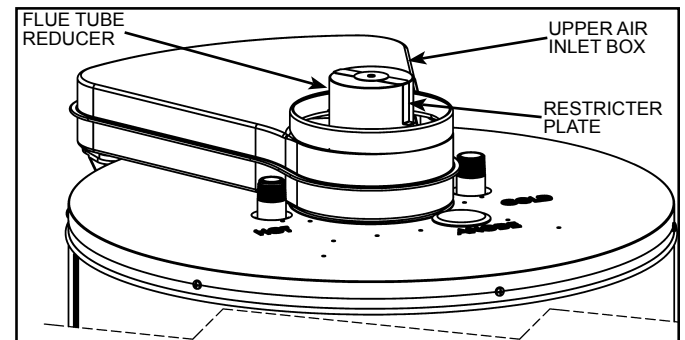
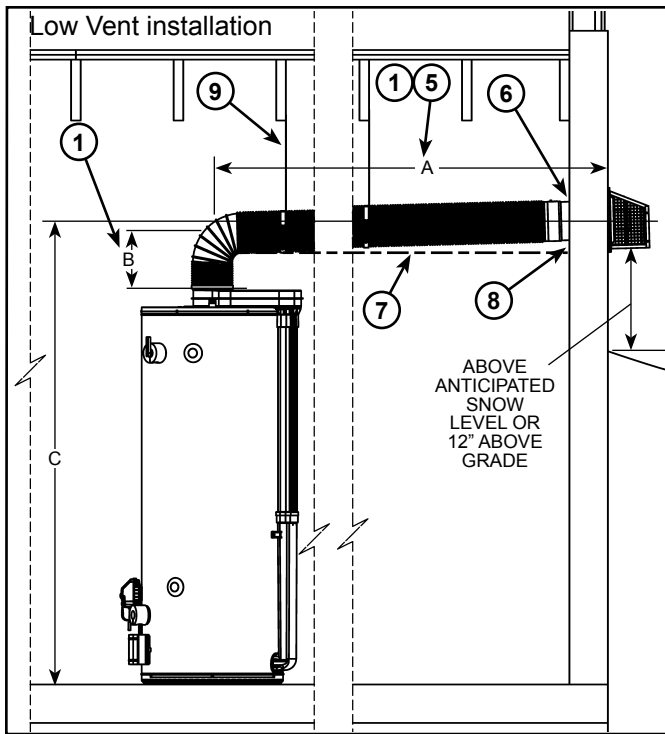
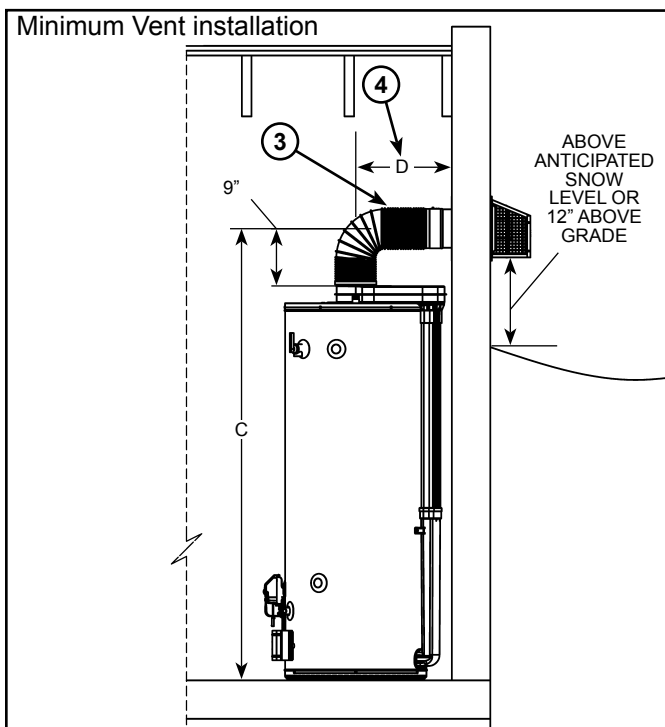
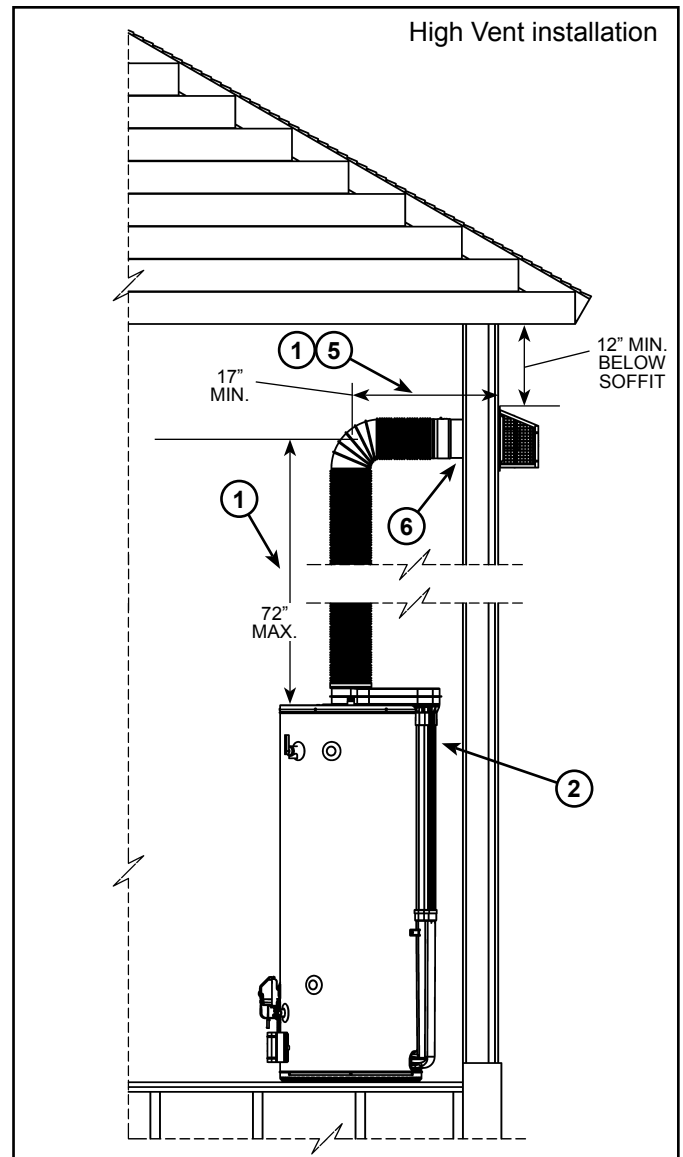

Figure 22
Figure 28
Figure 29
Figure 30
Figure 28 thru Figure 30 show various installation options.
* If the horizontal length of the venting is **less than 30"** the restrictor plate must be installed (see Figure 22, Figure 28 thru Figure 30).
The vent restricter plate (see Figure 22) is required for short horizontal runs on low vent installations (see Figure 29) and high vent installations (see Figure 30).
For short horizontal vent runs (see Figure 29) place the restricter plate over the flue tube reducer before connecting the inner corrugated tube to the flue tube reducer. **DO NOT** use the restricter plate if the horizontal run is greater than 30".
For high vertical runs use the restricter plate only when the vertical run of the venting above the heater is greater than 48" (see Figure 30).
NOTES: (applies to Figure 28 thru Figure 30)